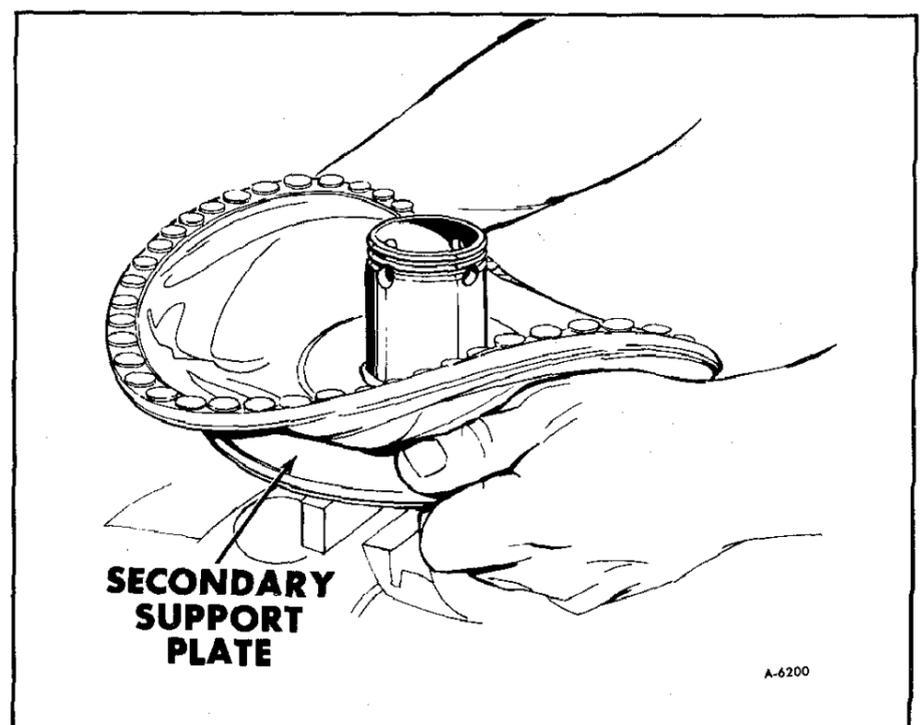

Figure 13—Locking or Unlocking Secondary Support Plate and Secondary Power Piston
secondary support plate. Grip the edges of the support plate and rotate clockwise to unlock the secondary support plate from the secondary power piston (figure 13).
20. Grip the edges of the secondary support plate, press down, and rotate counterclockwise until the tabs on the secondary power piston contact the stops on the support plate. Fold the secondary diaphragm back into position on the secondary support plate. Leave the secondary power piston assembly on Tool J-23101 in the vise (figure 13).